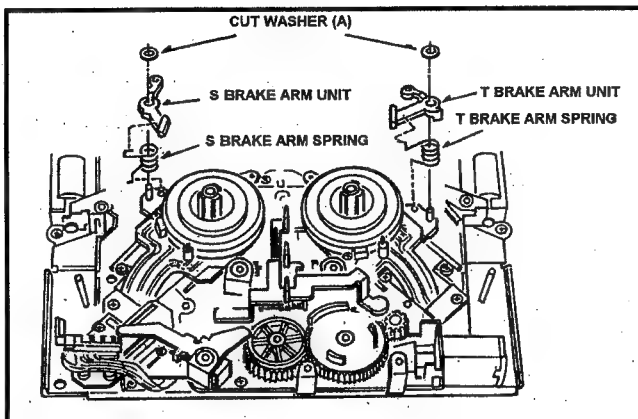

Fig. 6-6-1 Removal of S & T Brake Arm Unit
4. Remove the cut washers (A) and remove the Supply and Take Up Brake Arm Unit as shown in Fig. 6-6-1.
1. When install the new Brake Arm Unit, first hang on the Brake Arm Spring as shown in Fig. 6-6-1.
3. Main Brake Torque confirmation is required (Refer to item 5-4).
4. Confirm the Tension value on the Playback mode (Refer to item 5-16).